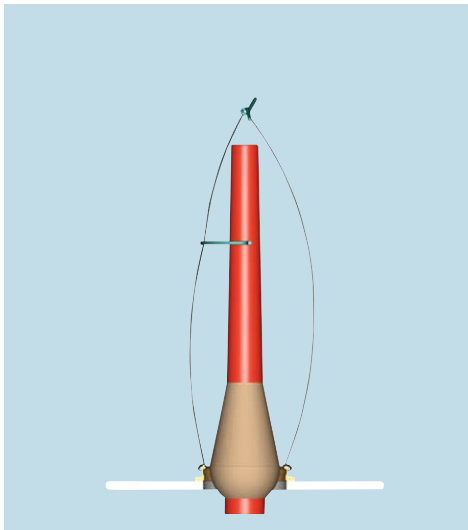

Fig. 1: Cop base with full cop diameter
- 1 Select the ring traveler weight at the bottom of the cop when the bobbin reaches full diameter (Fig. 1)